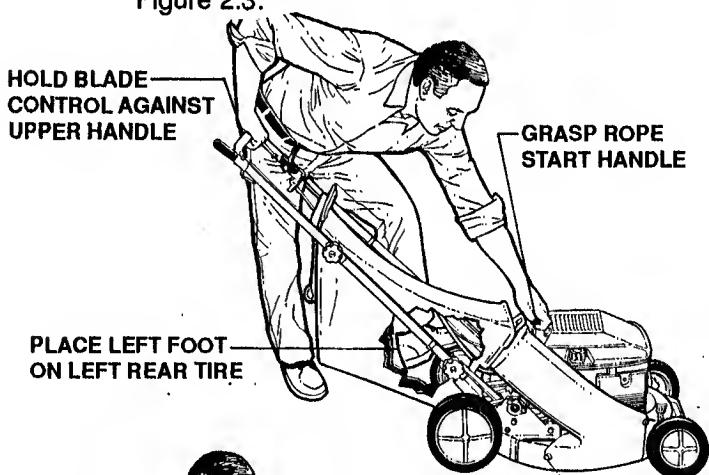

FIGURE 2.3
5. Bend at waist to reach start rope handle. See Figure 2.3.